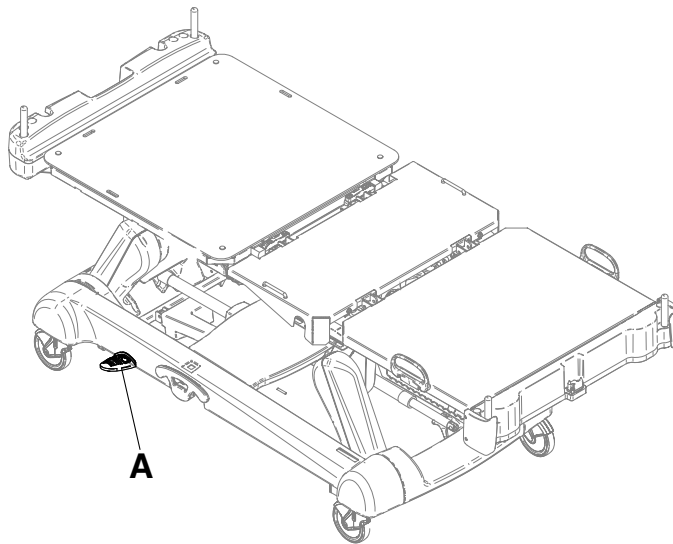

Figure 10: CPR release pedal
Two instant CPR release pedals are located at the head end section on both the left and right sides of the litter (A) (Figure 10 on page 29).